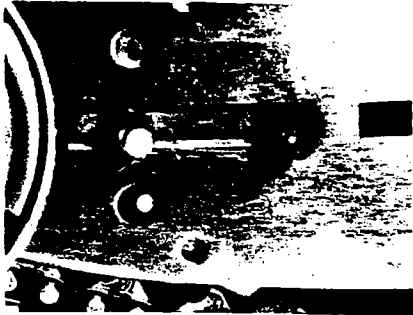

Figure 4
5. Turn (counter-clockwise) the bar adjusting screw (see chain adjustment photo Figure 6) until adjusting pin in Figure 4 is in extreme rear position. Pull bar forward until adjusting pin seats in the hole of the bar.